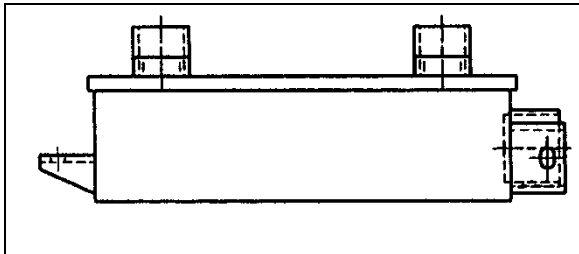

FIGURE 7: COOLER WITH RETARDER
2. Disconnect the two transmission hoses from oil cooler. Cover hose ends and fittings to prevent fluid contamination (Figure 7).